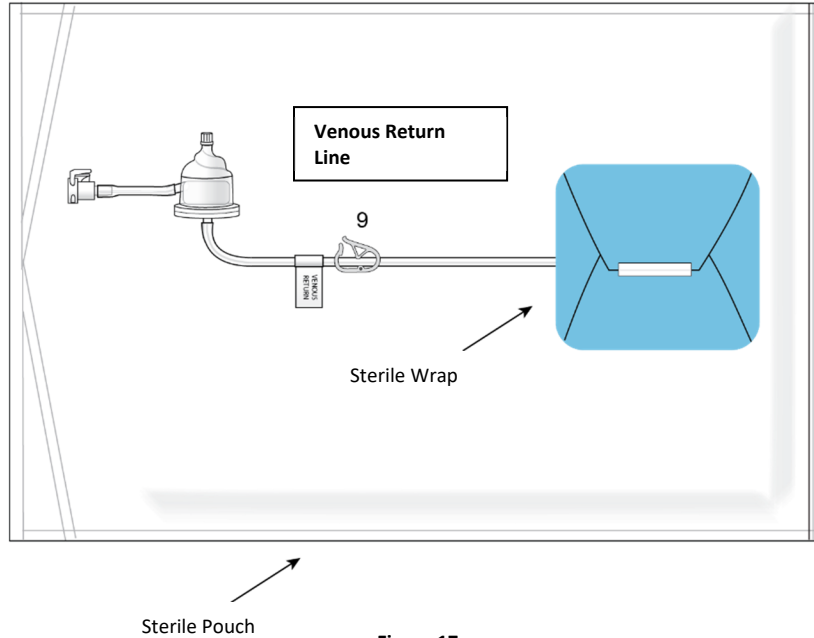

Figure 17
- (b) Open the Venous Return sterile pouch and remove the venous return line and built-in bubble trap, (Figure 17).